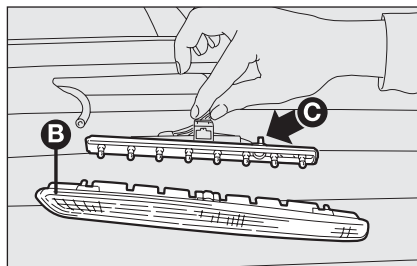

fig. 33
- remove the lens unit **B**-fig. 33 and disconnect the electric connector;
- press the tabs **C**-fig. 33 and remove the bulb holder;